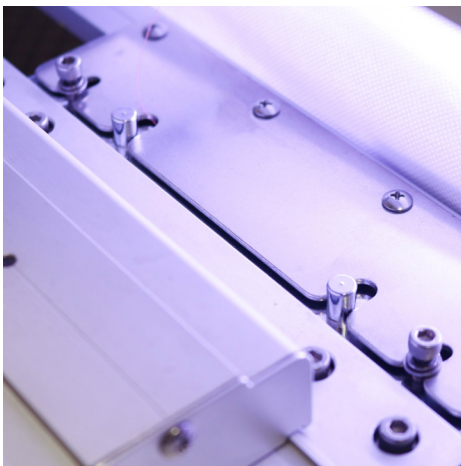

Figure 50
2. Slide the sash frame into the machine, lining up the slots on the outer end of the sash frame's bracket with the hex screws, and the slots on the inner end of the sash frame's bracket with the support pins. **See Figure 50.**